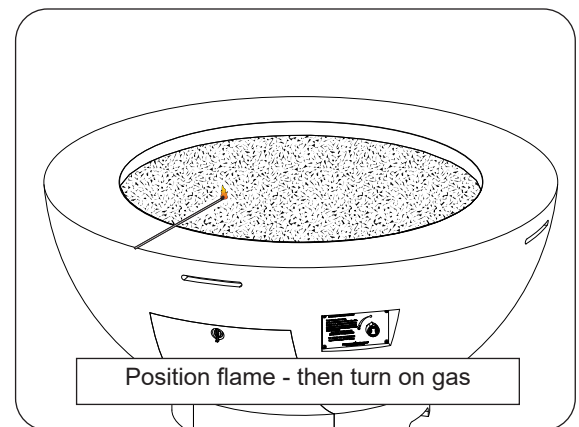

Fig. 39-1
3. Light a long-stem match or a long-necked butane lighter, and place the flame against the surface of the decorative media near the burner (Fig. 39-1).